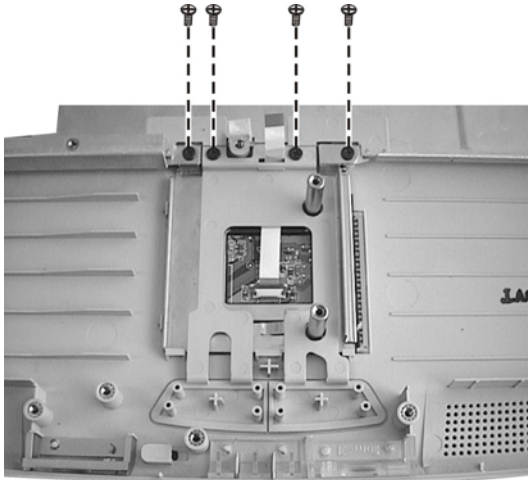

Figure 2-27
2. Remove the four screws to lift up the touchpad holder and touchpad panel. (figure 2-27)